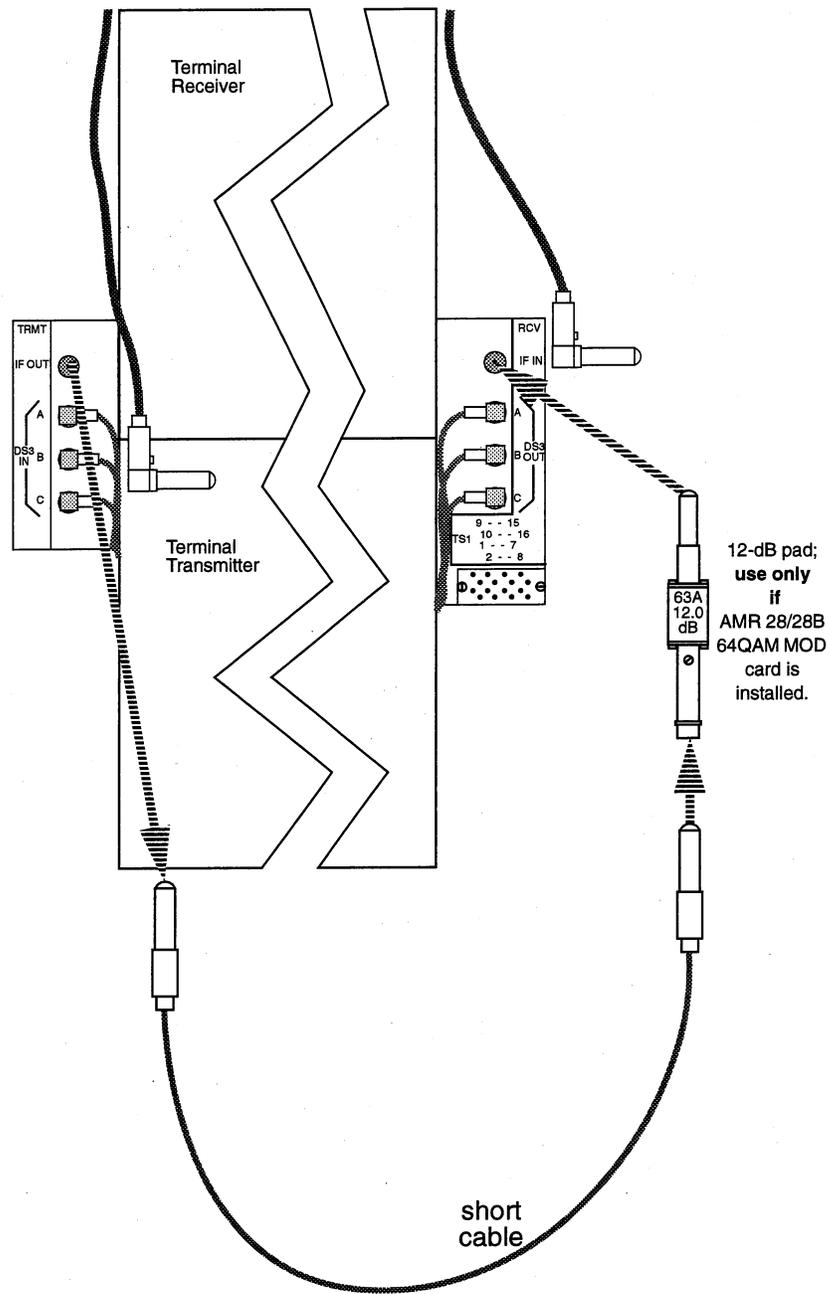
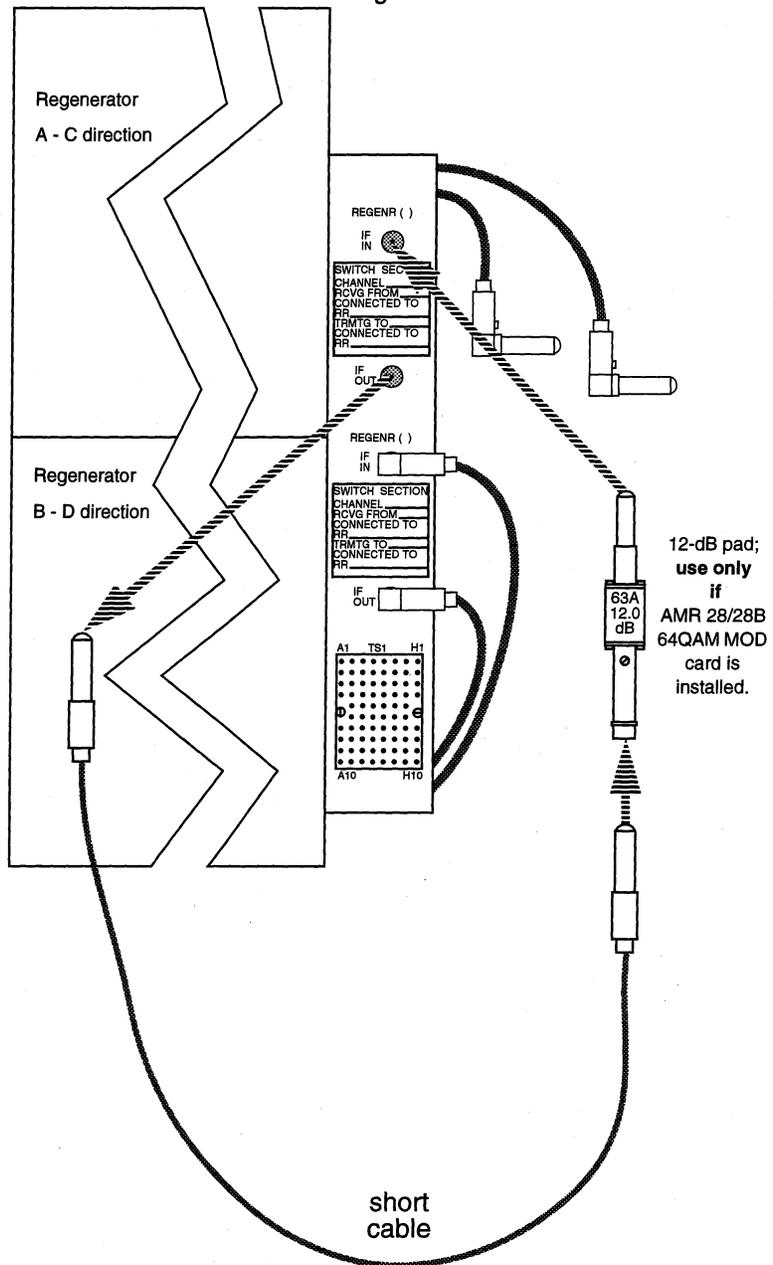

Figure 7. Terminal Loopback
Figure 8. Regenerator Loopback
- 5 Connect the test equipment as shown in Figure 7 (Terminal) or Figure 8 (Regenerator).
*Comment: In Figure 8 the Regenerator A - C direction is illustrated. The lower jacks are for the B - D direction.*